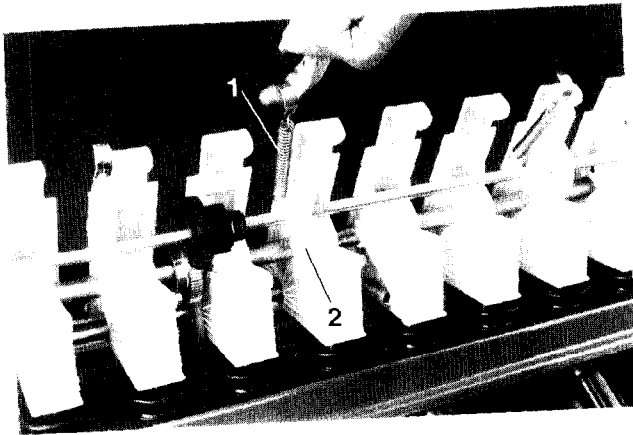
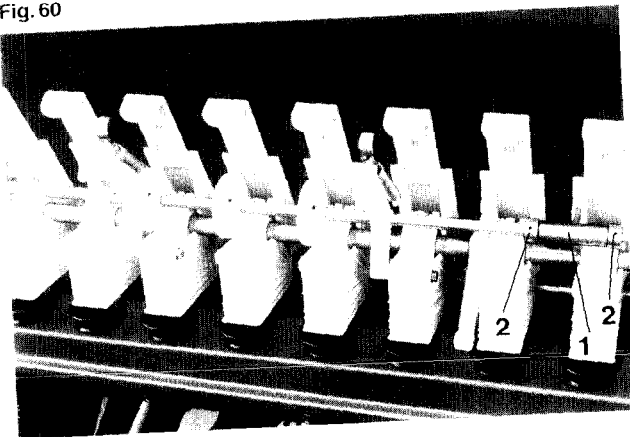
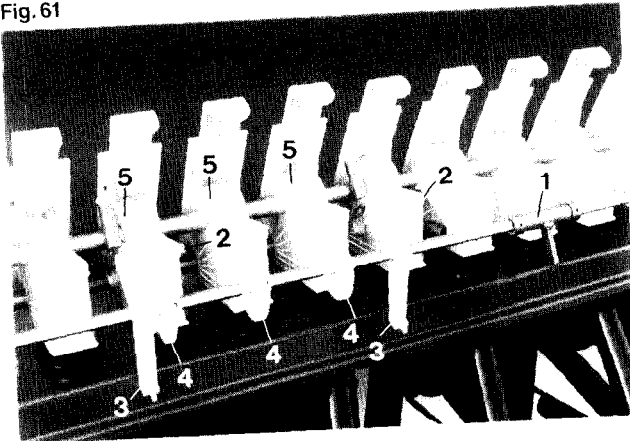

Fig. 60
Fig. 61
Fig. 62
- Loosen pulling springs (Fig. 60/1) between the metering wheel housings and the swivel bearings (Fig. 60/2) and fold backwards the counter shaft (Fig. 62).
- One mounting (Fig. 60/3), which secures the counter shaft from axial movement, hooks into a hole at the metering wheel housing. This fixing has to be pulled out of the mounting hole at the metering wheel housing for folding the counter shaft backwards and must be fixed in the same way again after re-fitting in the same or in the hole of an adjacent metering wheel housing. The fixing (Fig. 61/1) is secured from axial movement on the counter shaft by set rings (Fig. 61/2).
- Loosen the hexagon bolts (Fig. 62/2), with which the swivel bearings to the right and to the left next to the tramlining metering wheel housings are fixed.
- Slide the swivel bearings (Fig. 62/3) and the PVC-drive sprocket (Fig. 62/4) to the desired position on the counter shaft.
- Loosen the fixing bolts (Fig. 62/5) of the new tramlining metering wheels until these can be turned freely.
- Now affix the swivel bearings (Fig. 62/3) to the right and the left next to the tramlining metering wheel housings and hang in the pulling springs between the swivel bearings and the metering wheel housings.
The fitting of the PVC-drive sprocket (Fig. 62/4) is done as described under para. 15.5. Now the counter shaft should be equipped with PVC-drive sprockets only on the right side of the machine. The drive sprockets are to be mounted to the counter shaft in such a way, that the distance of the tramlining metering wheels is equivalent to half a tractor's track width when measured from the righthand outer edge of the machine. If also a pre-emergence marker is used, the left hand marker disc should be removed.